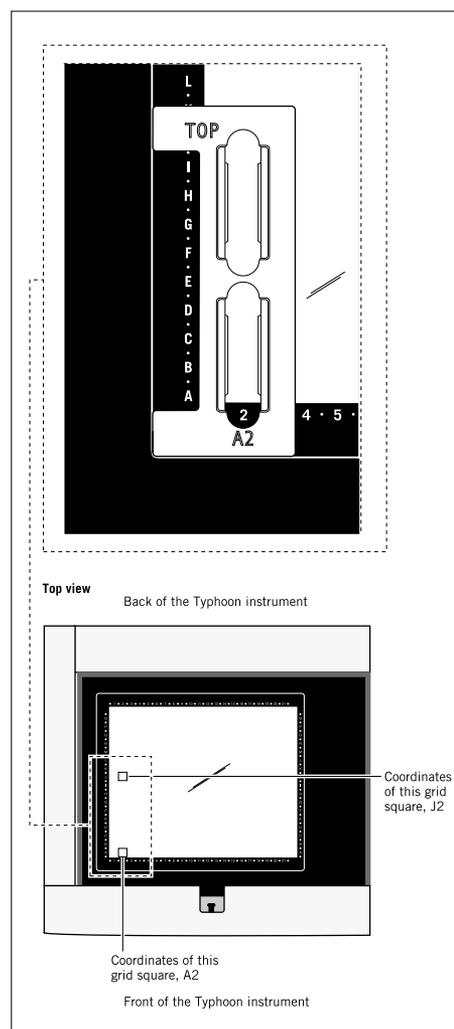

Fig 2. Positioning the microarray slide holder on the glass platen.
- 5.1.2. Gently position the Typhoon microarray slide holder at the front left corner of the clean glass platen (Fig 2).